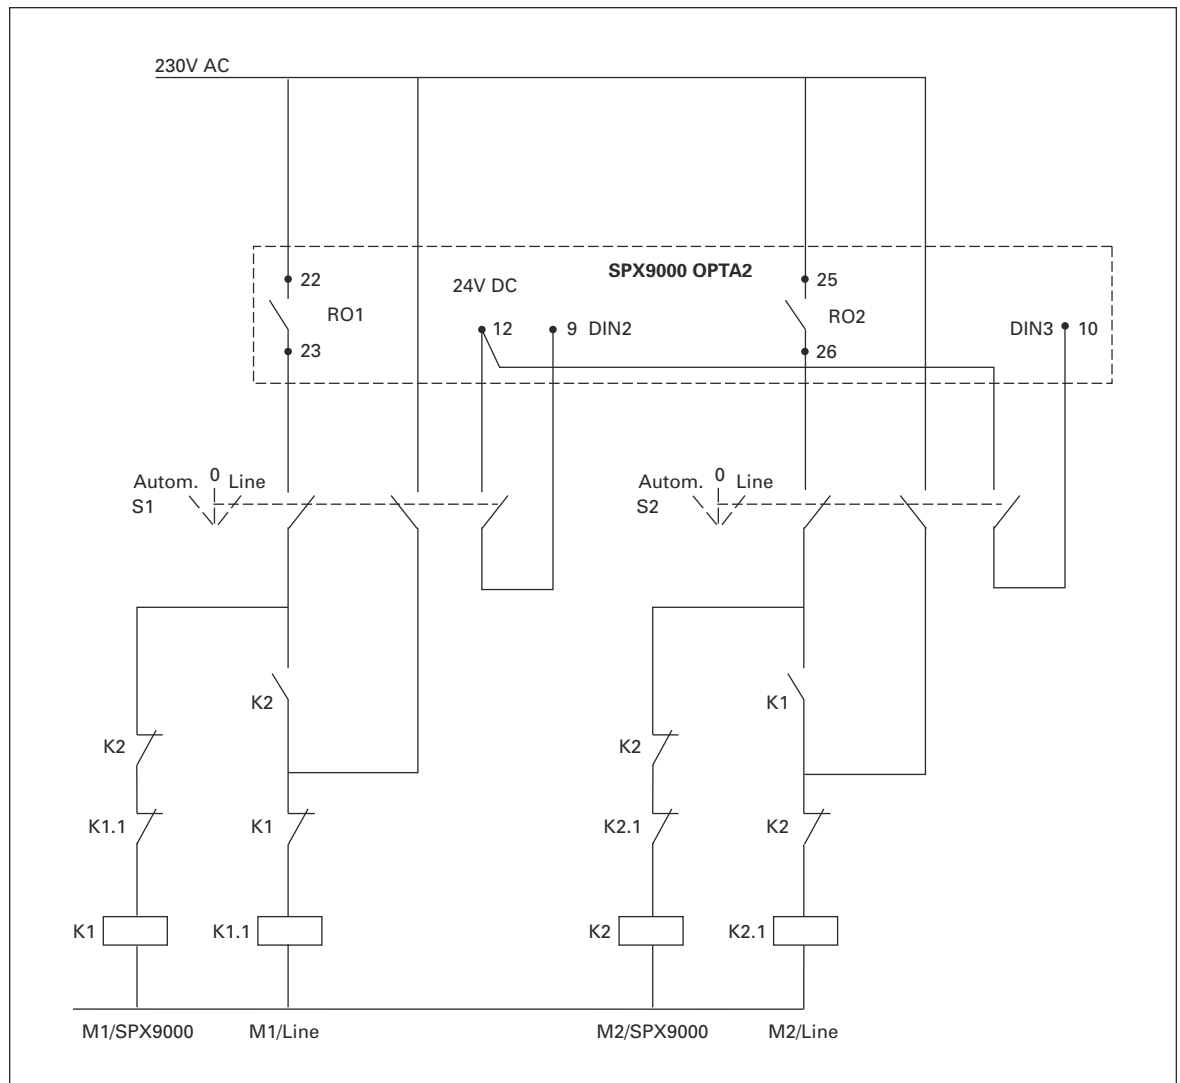
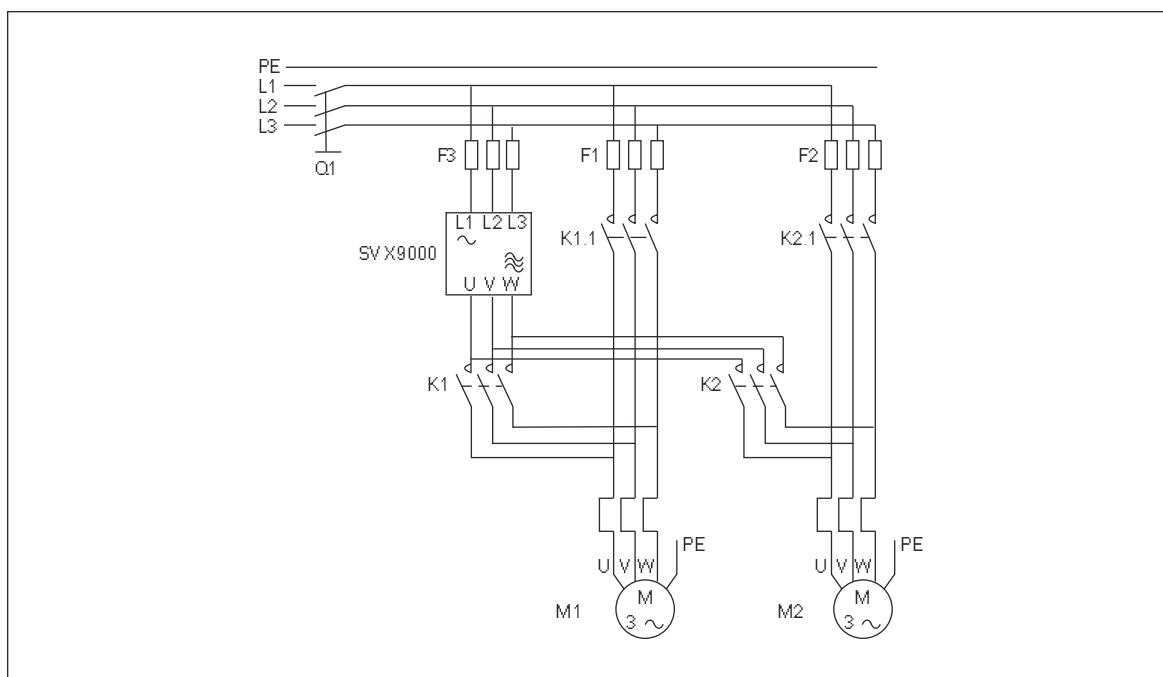
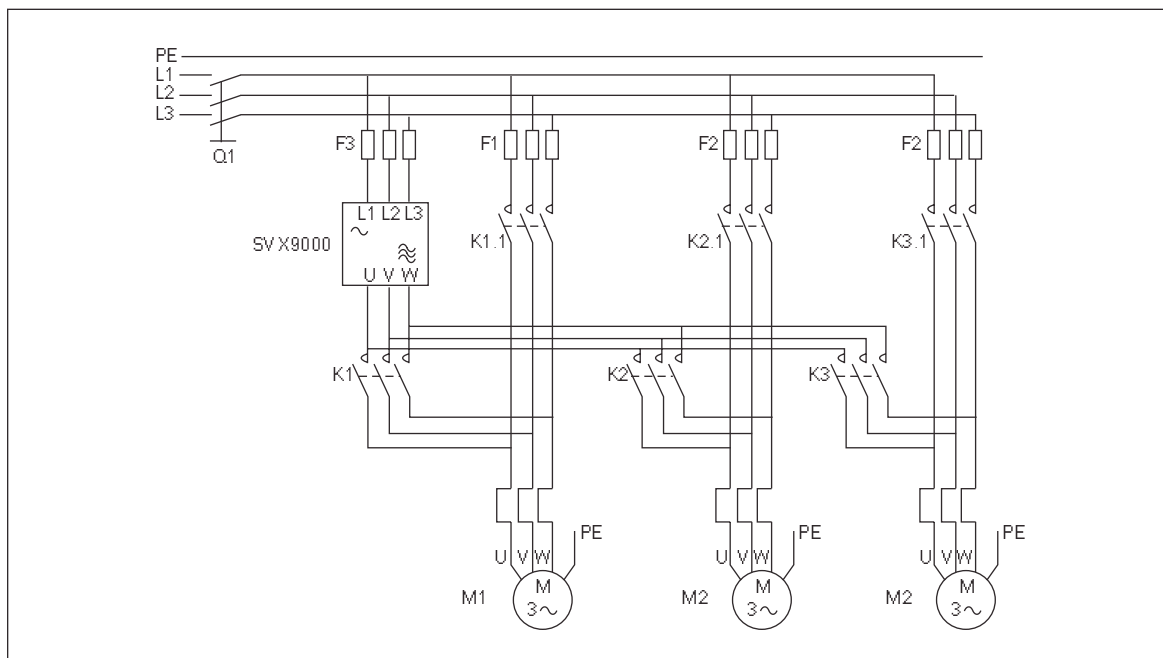

Figure 7-1: 2-Pump Autochange System Principal Control Diagram
Figure 7-4: Example of 2-Pump Autochange, Main Diagram
Figure 7-5: Example of 3-Pump Autochange, Main Diagram
- External contactors controlled through the relay outputs of the frequency converter connect the drives to the frequency converter or to the mains. If the motor controlled by the frequency converter is included in the autochange sequence, it is always controlled through the relay output activated first. The other relays activated later control the auxiliary drives (see **Figure 7-4** and **Figure 7-5**).
The automatic change of starting and stopping order is activated and applied to either the auxiliary drives only or the auxiliary drives **and** the drive controlled by the frequency converter, depending on the setting of parameter 1.9.25, *Automatics selection*. By default, the Autochange is activated for 2 drives. See **Figure 7-1** and **Figure 7-4**.